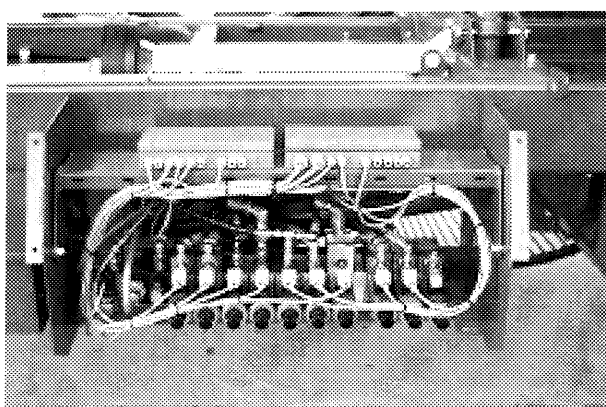

Fig. 24-3
- Relay unit on the machine (Fig. 24-3)